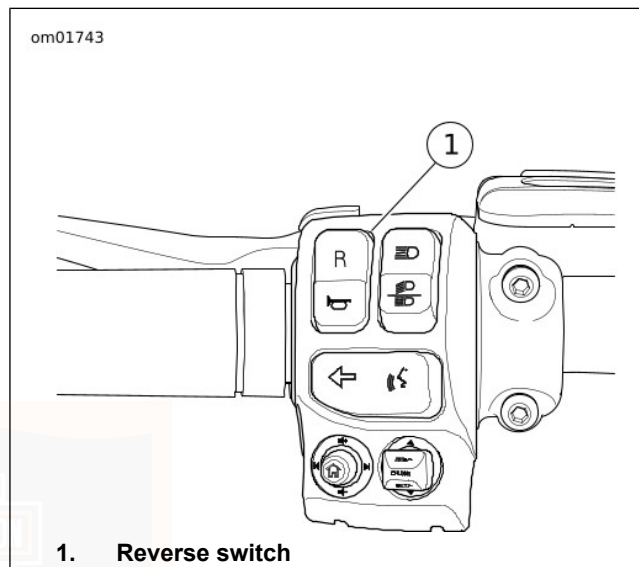

Figure 9. Reverse Controls
2. See Figure 9. With the vehicle started and in neutral, press and hold the reverse switch in the left side controls until the reverse lamp in the tachometer illuminates. See Figure 5. The lamp in the tachometer indicates that the reverse is enabled. Release the reverse switch. The neutral lamp turns off when the reverse lamp turns on.